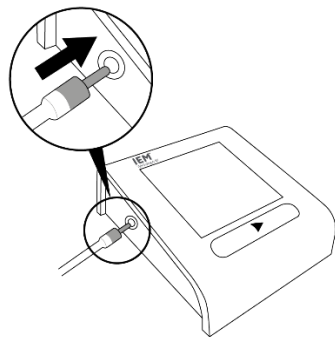

Fig. 7: Insert air hose
1. Insert the air hose connection into the air hose socket on the left side of the blood pressure monitor and place the blood pressure monitor on the table (see fig. 7).